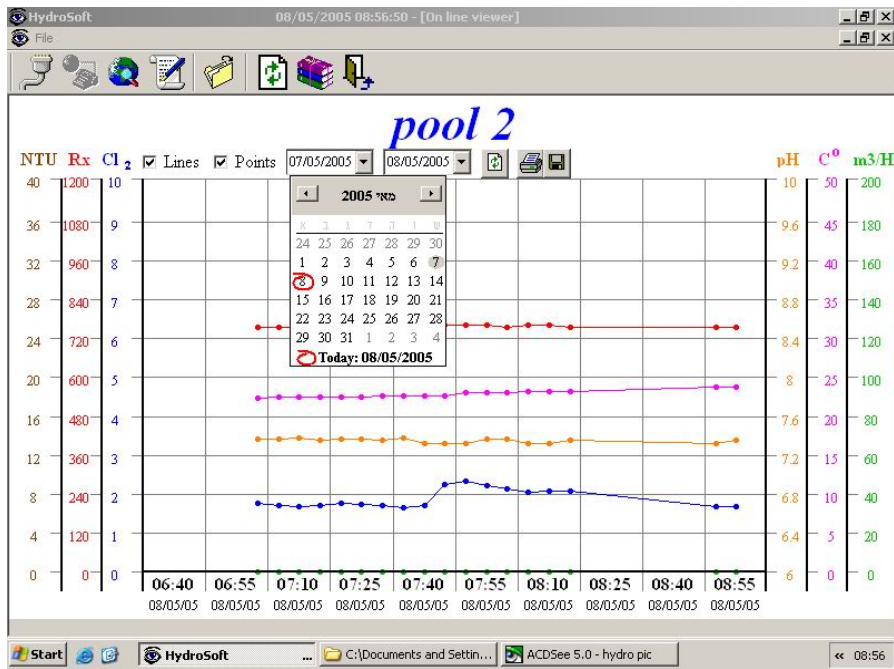

Figure 12: Selecting the Date Range to Display Data
2. Select the dates for the start and end (Figure 12)